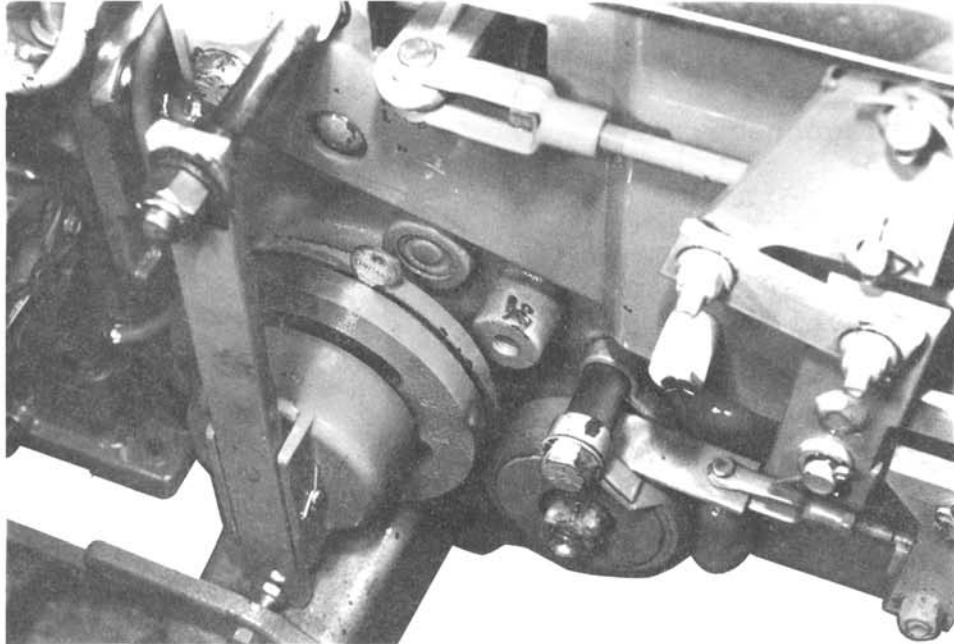

FIGURE 10
- d. Clutch gap adjustment: With the forward-reverse lever in the neutral position, adjust the nuts on the slide rod so that: (1) the forward clutch gap is 0.070" (1.8mm) and (2) the reverse clutch gap is 0.125" (3.2mm). See Figure 10 (the ignition key can be used for a gauge in the fwd clutch).